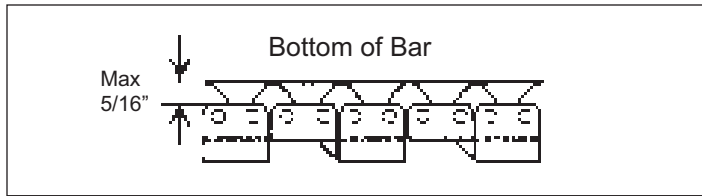

Figure 2. Maximum Chain Clearance
1. Make sure the chain does not exceed a clearance of 5/16 in./8 mm from the bar (see figure 2). Exceeding the maximum clearance increases the chance of the chain being dislodged from the bar groove.